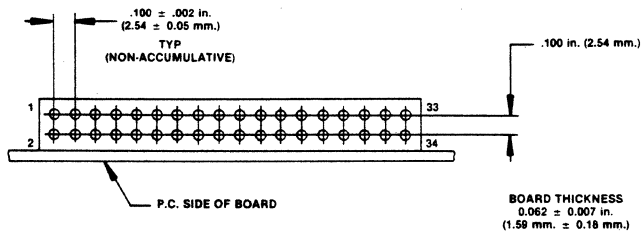
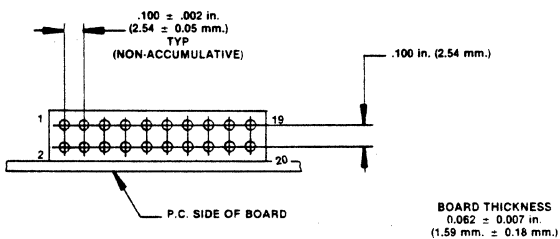
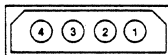

FIGURE 3-2
FIGURE 3-3
FIGURE 3-4
The electrical interface between the drive and the host system is via three connectors. J1 provides control signals for the drive (see Figure 3-2). J2 provides for the radial connection of read/write data signals (see Figure 3-3). J3 provides for D. C. power (see Figure 3-4).
Connection to J1 is through a thirty-four-pin connector. Figure 3-2 contains the dimensions of this connector. The pins are numbered 1 through 34. The recommended mating connector for P1 is AMP connector P/N 499496-9.
Connection to J2 is through a 20-pin connector. Figure 3-3 contains the dimensions of this connector. The recommended mating connector for P-2 is AMP connector P/N 499497-4.
D. C. power connector J3 is a four-pin AMP Mate-N-Lok connector, P/N 350211-1, mounted on the component side of the circuit board. The recommended mating connector, P3, is AMP P/N 1-480424-0, utilizing AMP pins P/N 60619-4. J3 pins are labeled on the J3 connector (see Figure 3-4). J3 cabling must be 18 AWG, minimum.